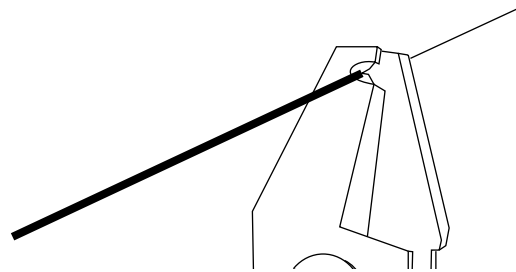

Figure 2
4.4 Use the Miller fiber stripping tool to remove the fiber coating in $\frac{3}{8}$ -inch increments until you have removed the coating length specified for the cleaver you are using (Figure 2).